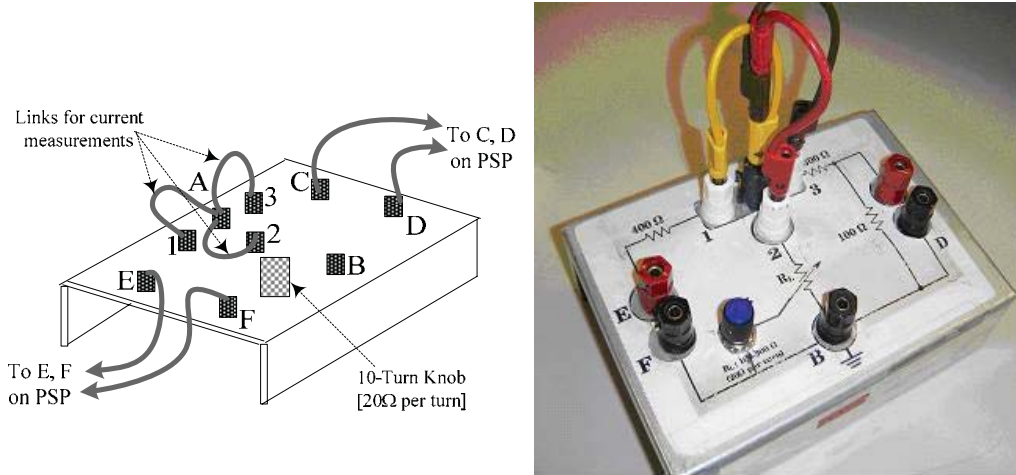

Figure 1.7 : The 'R-Chassis'
**Experimental Circuit for DC experiments:** The resistor circuit shown in Figures 1.3 and 1.4 is available in the lab, constructed on an old-fashioned aluminum chassis ('R-Chassis') shown in Figure 1.7. It is used in this experiment for DC measurements. The actual circuit connections between the various terminals on the chassis can be easily examined visually. The circuit diagram of the R-chassis with the resistance values used, is pasted on the top side of the chassis, as seen in the photograph. The resistor values as well as the patch cord connections to be made, including current-measurement links (around the node A), are also shown in the figure. The value of  $R_L$  in the circuit is variable from  $100\Omega$  to  $300\Omega$  using a 10-turn potentiometer ( $20\Omega$  per turn starting from  $100\Omega$ )